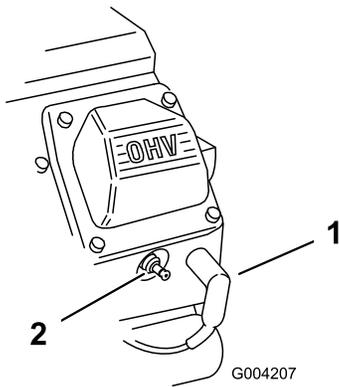

Figure 25
2. Pull the wires off of the spark plugs (Figure 25).
3. Push the wires onto the spark plugs (Figure 25).